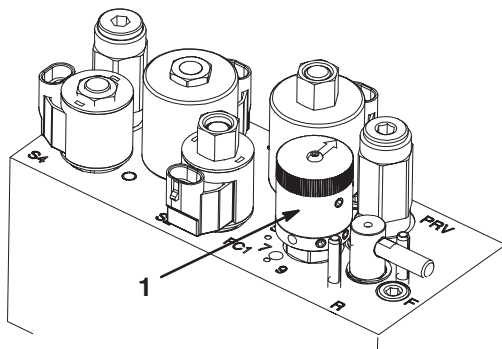

Figure 38
4. To set the reel speed, rotate the knob (Fig. 38) until the indicator arrows are in line with the number designating desired setting.